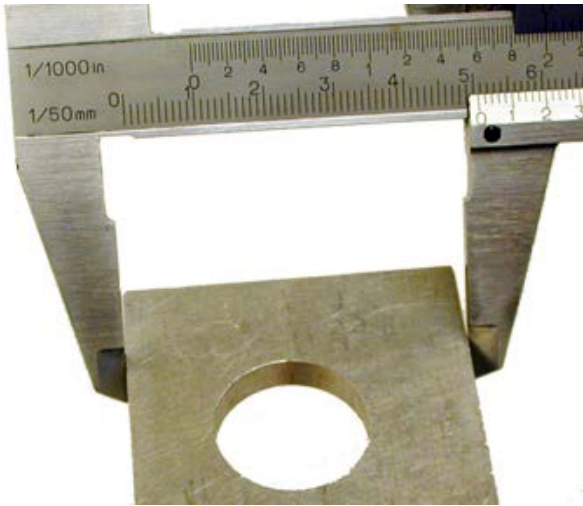

Figure A1-1. Using calipers to measure an outside dimension.
- Refer to figures A1-1 and A1-2 for making measurements of outside and inside dimensions, respectively.